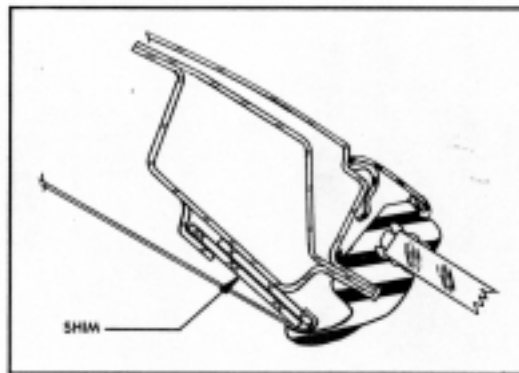

Fig. 10 Shim Installed
4. Place shim between headlining and foundation board as shown in Figure 10.